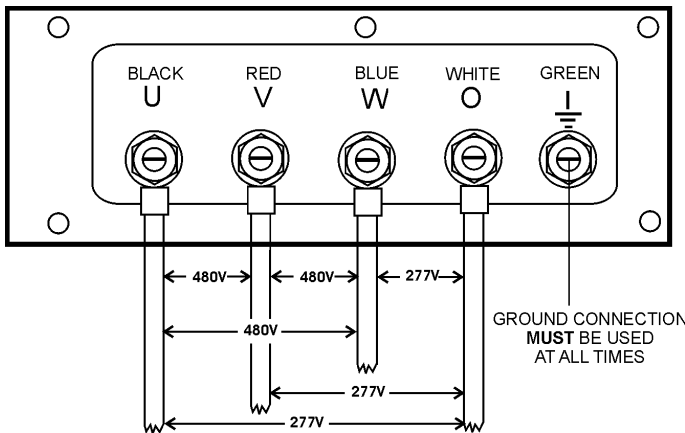

Figure 28. Output Terminal Lugs 3Ø-480/277V Connections
2. Connect the load wires to the **Output Terminal Lugs** as shown in Figure 28.